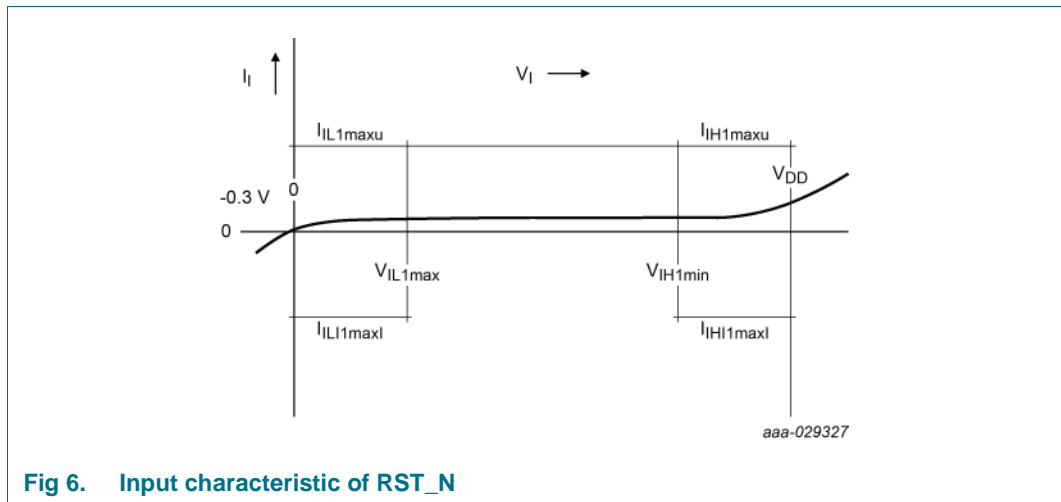

Fig 6. Input characteristic of RST_N
- [3] The active low RST_N input internally has a resistive pull-down device to VSS. Accordingly a current is flowing into the pad voltages above 0 V. Figure 6 shows the RST_N input characteristic.